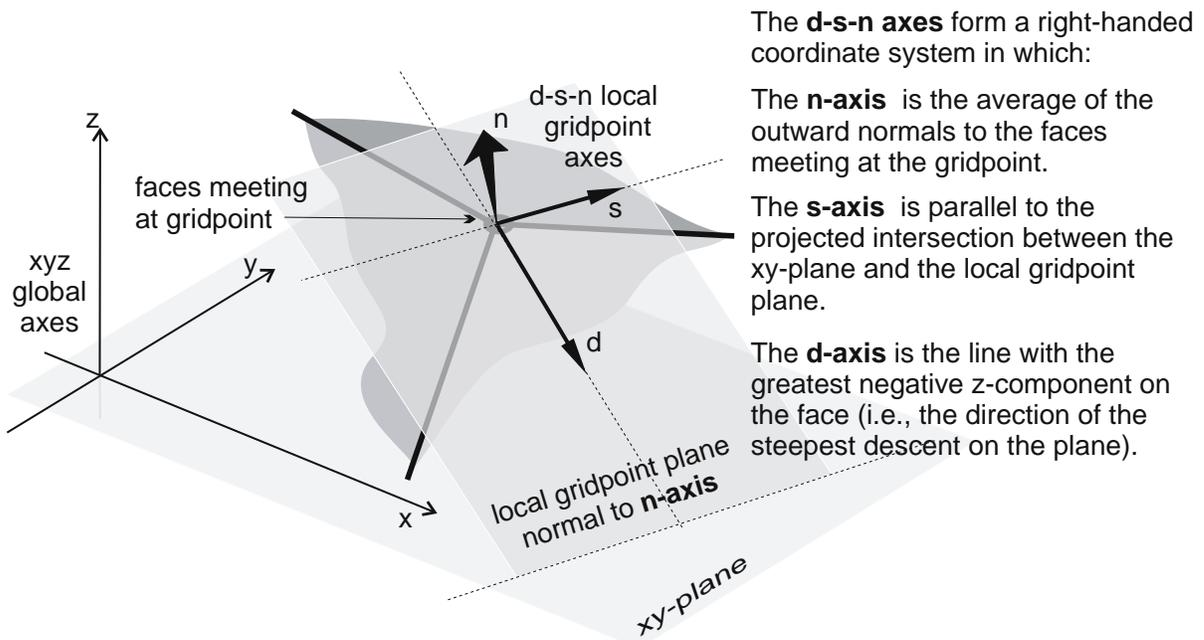

Figure 1.2 Local gridpoint axes
1. The local gridpoint axes are defined by the normal direction vector at each gridpoint. The default gridpoint normal is the average of the normal vectors of the faces meeting at the gridpoint. The dip, strike and normal directions form a right-handed coordinate system. Given the normal vector, the other local axes are defined by “*d*-axis,” which points downward (i.e., in the negative *z*-direction) along the dip-direction, and “*s*-axis,” which is horizontal (i.e., lies within the global *xy*-plane), such that *d-s-n* form a right-handed system (see Figure 1.2). The normal direction may also be specified with the **plane** keyword. This will override the default normal.